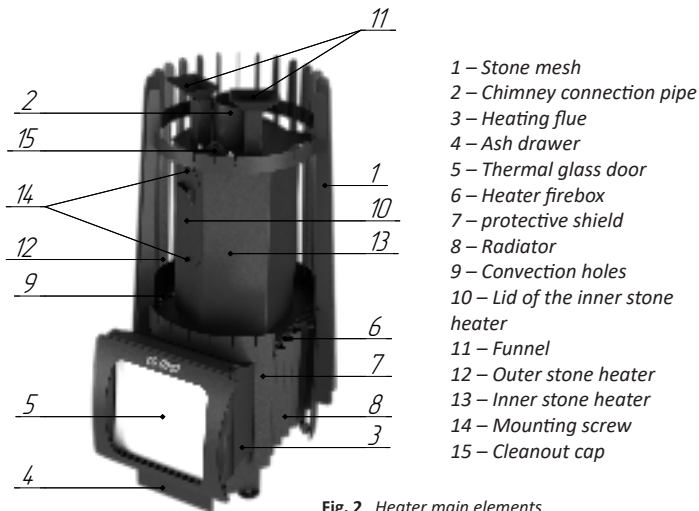

Fig. 2 Heater main elements
Overall view and location of the heater main elements are shown in Figure 2. Heater firebox (6) is fabricated of high duty rolled steel. Use of such steel increases the heater's durability and service life taking into account the firebox wall thickness of 3 mm, while the most critical elements are made of 5 mm thick steel.
Installation of the lid shall be carried out after loading stones into the inner stone heater. For heater operation in fine steam mode the lid shall be installed tight against the wall of the stone heater. The lid position is adjusted via mounting screws (item 14 in Figure 2). The screws have hex holes (included). The lid shall be removed, if you need access to the stones or during the operation of the inner compartment of the stone heater in traditional steam mode.